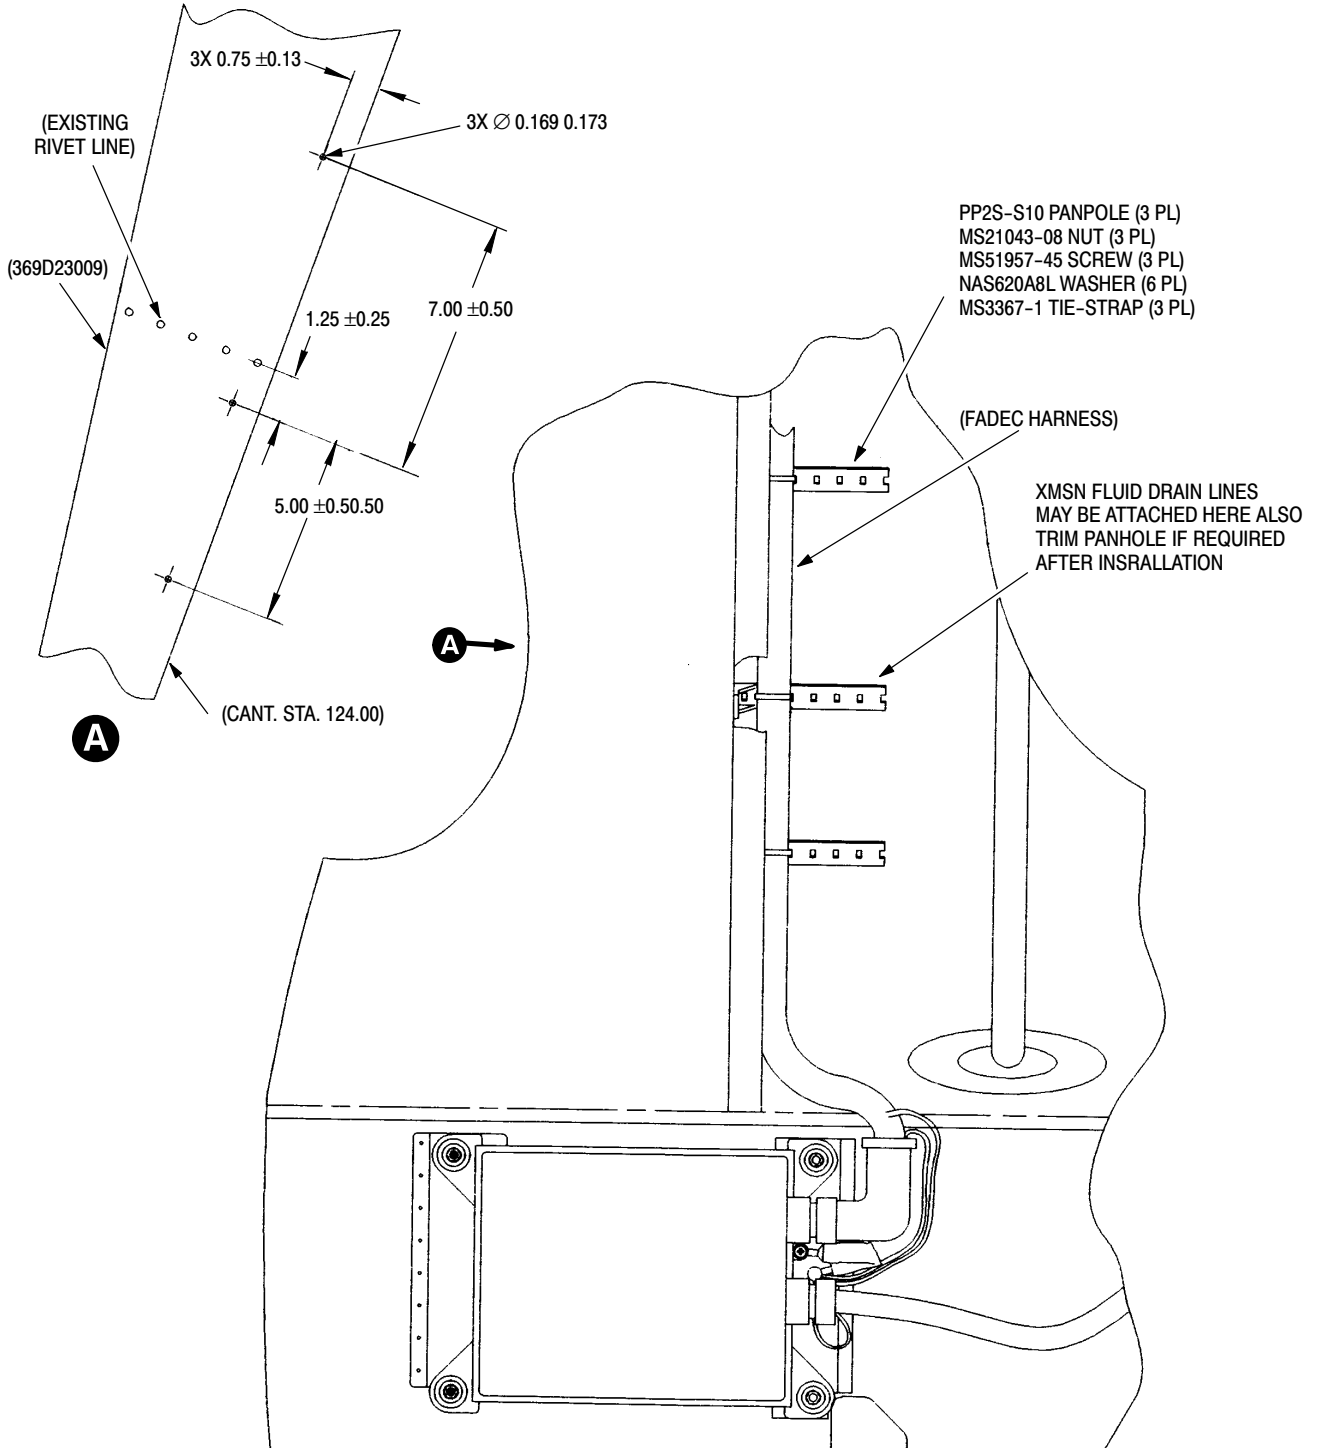

Figure 1. FADEC Wire Harness Routing Rework.
- (1). Remove trim panels as required to expose the FADEC wire harness attach points above the FADEC ECU in the aft compartment. Inspect wire harness for any damage from adjacent hardware. If there is apparent chaffing on the wire harness cover (NOMEX cover), the wire harness may be removed and a pin to pin continuity check can be made. The wire harness is not field repairable and, if the stainless steel braid is damaged and/or pin to pin continuity check has failed, the harness must be replaced.
- (2). Remove the tie straps that secure the FADEC wire harness to the ships structure and secure the wire harness to provide adequate clearance to perform the following rework.
- (3). Locate and install the three Pan Pole standoffs as shown on Figure 1.
- (4). Secure FADEC wire harness to the standoffs using tie straps. **NOTE:** The transmission drain lines may be secured to these standoffs as well for convenience. It is not necessary to remove the existing tie bases in the rework area.
- (5). Reinstall any trim panels previously removed.
- (6). Record compliance to this Service Bulletin in the Compliance Record section of the helicopter Log Book. Complete the attached form and FAX back to MDHS.